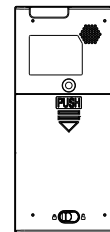

Fig.2-2
1) Open the battery cover: Slide the fixing screw slightly in the rear panel to the position which is marked with "⏏" and then push the cover as indicated by arrowhead, as shown in Fig. 2-2.